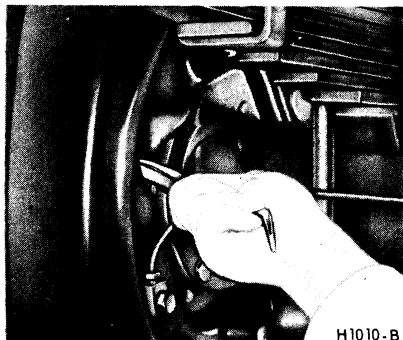

FIG. 1 Two-Cylinder Brake (Rear) Shoe Adjustment
1. Remove the adjusting slot covers from the backing plate (Fig. 1).